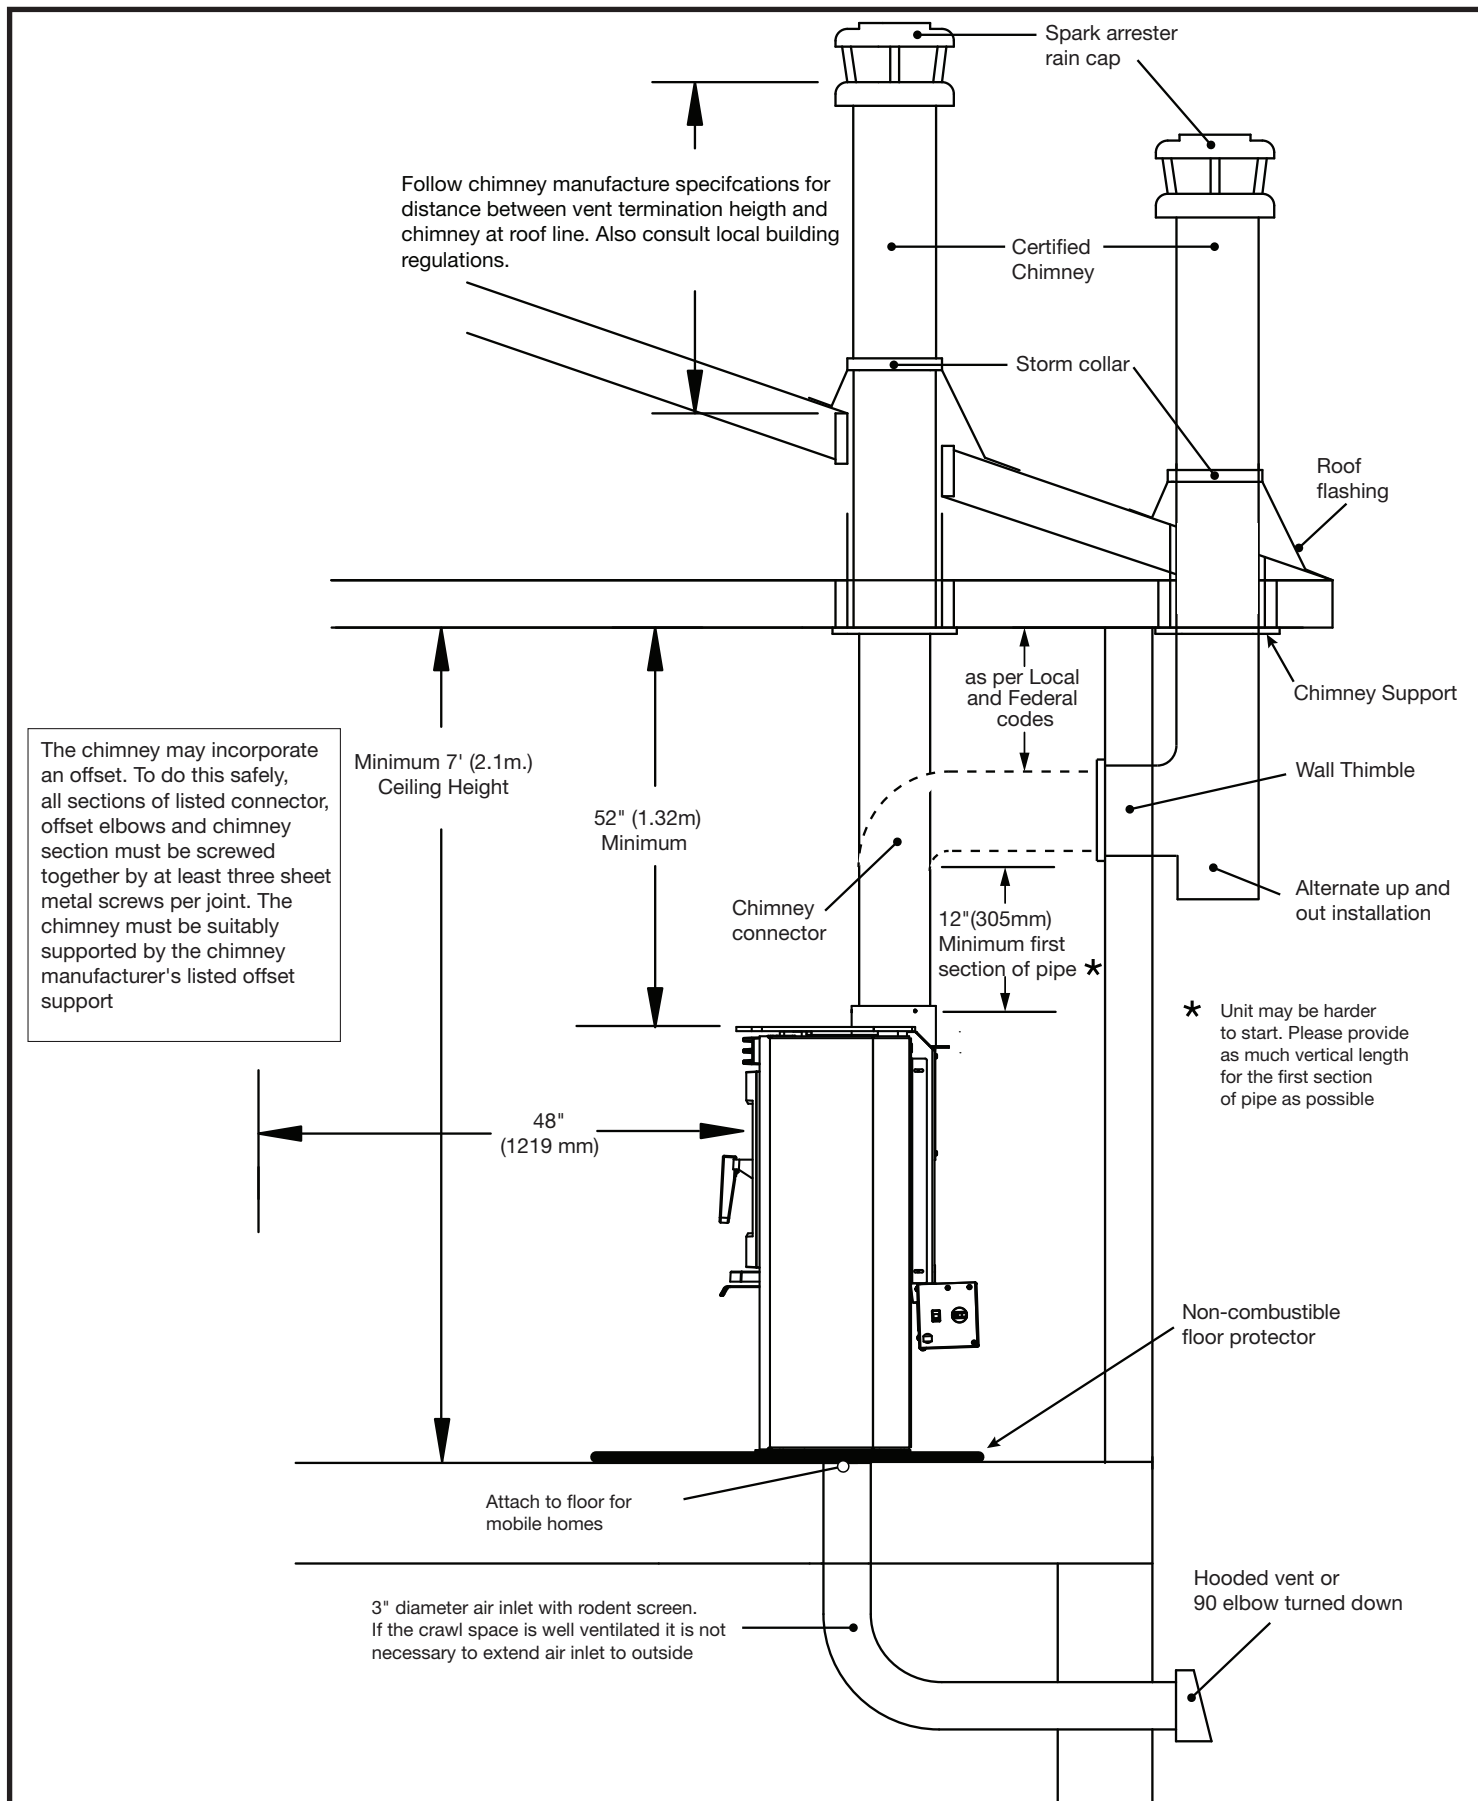

Figure 11: Common residential venting configuration.
- Outside air supply must be used for Mobile Home installations. See "Figure 11" on page 20.
**NOTE:** Longer chimney lengths and different pitch flashings may be used. All other parts listed must be installed (See Figure 11 on page 20) Install all components to the connector or chimney manufacturer's installation requirements. Consult your chimney supplier for installation advice.